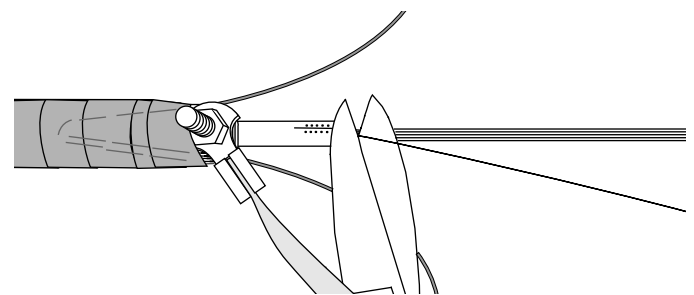

Figure 44
7.33 Using scissors, cut the fiber(s) to be accessed as close as possible to the appropriate end of the central tube (Figure 44). **USE EXTREME CARE TO CUT ONLY THE FIBER(S) TO BE ACCESSED.**